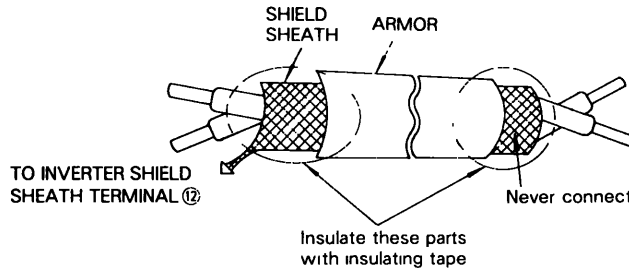

Fig. 6 Shielded Lead Termination
(2) Control circuit leads ⑨ ⑩ ⑱ ⑲ ⑳ (contact output) must be separated from leads ① to ⑧ and ⑪ to ⑰.
Use the twisted shielded or twisted-pair shielded lead for the control circuit line and connect the shield sheath to the inverter terminal ⑫. See Fig. 6.